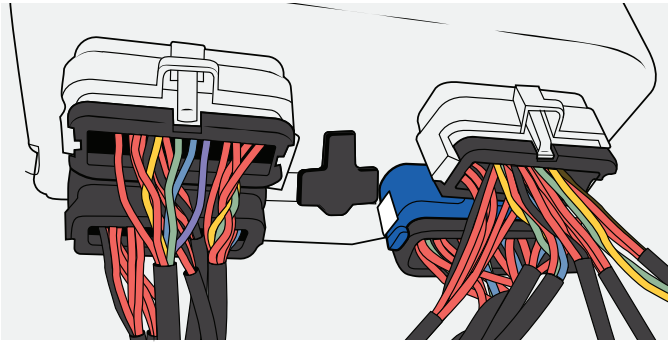

Figure 27
9. Disconnect all the connectors (four at the most) from the Main panel box. Use a small flat screwdriver for easier removal. See Figure 27.